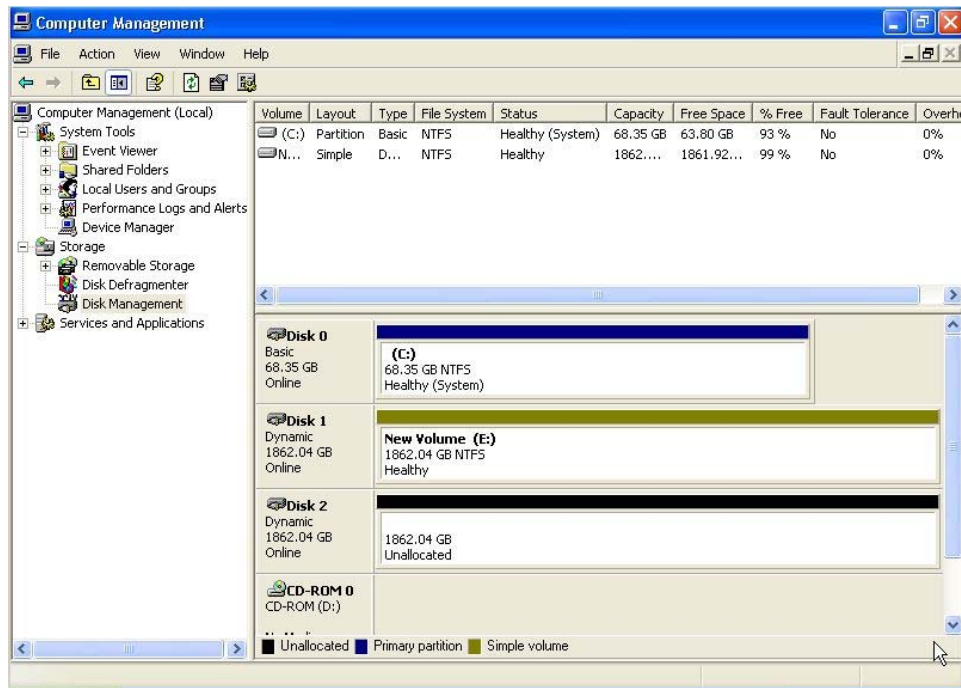

FIGURE 6-27. Computer Management Screen, Showing the New Volume for Disk 1.
- The *Computer Management* screen appears. It shows the settings of “New Volume (E:)” for Disk 1. See Figure 6-27.